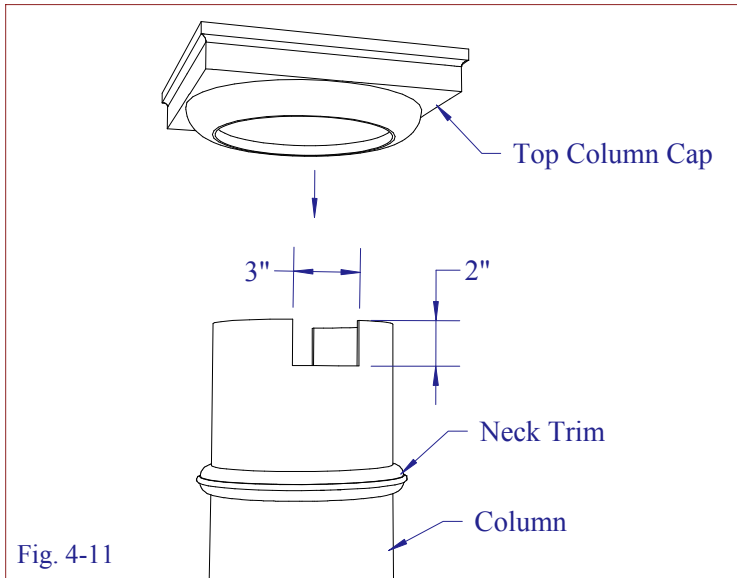

Fig. 4-11
- Cut a notch on opposite sides at the top of the column 3" wide and 2" deep (see Fig. 4-11). This is to allow room to attach the post to the post top bracket. The notches will be covered by the column cap.